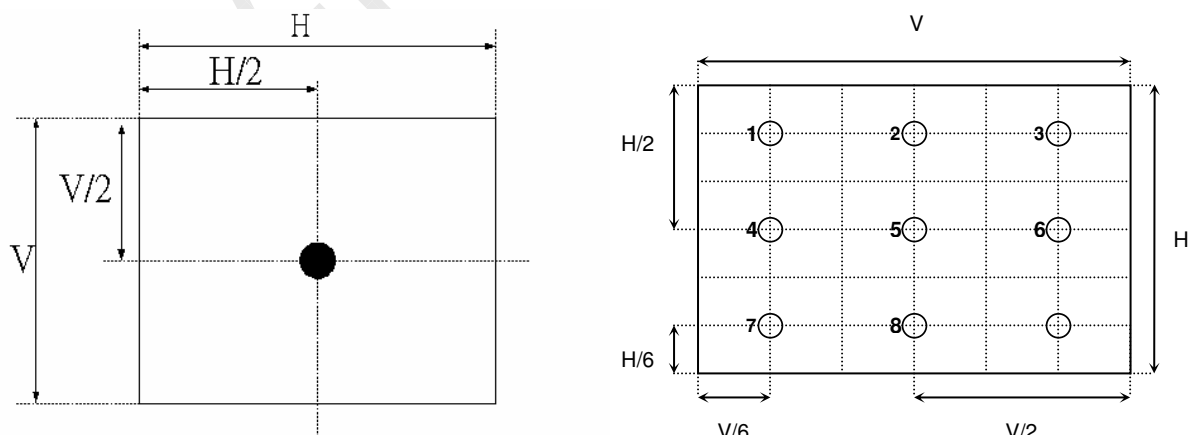

FIG. 2 Luminance
2. Surface luminance is luminance value at point 5 across the LCD surface 50cm from the surface with all pixels displaying white. From more information see FIG 2. When $V_{\text{DDB}} = 24\text{V}$, $I_{\text{DDB}} = 5\text{A}$, $L_{\text{WH}} = L_{\text{on5}}$, where L_{on5} is the luminance with all pixels displaying white at center 5 location.